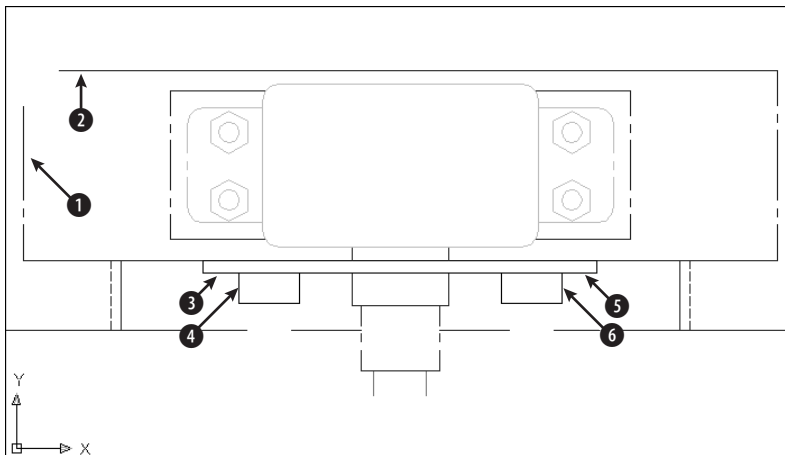

Figure 10-33: A mechanical drawing showing a small section of a porcupine mixer
2. Save the file as `ab10-11.dwg` in your *AutoCAD Bible* folder. This is the same drawing used in the previous exercise. It is shown in Figure 10-33.
4. At the **Select first object or [Polyline/Radius/Trim/mUltiple]:** prompt, pick the line at **1** in Figure 10-33. At the **Select second object:** prompt, pick the line at **2**. AutoCAD fillets the two lines.
6. At the `Select first object` or `[Polyline/Radius/Trim/multiple]:` prompt, right-click and choose `multiple`. Pick the line at ③ in Figure 10-33. At the `Select second object:` prompt, pick the line at ④. AutoCAD fillets the two lines. The prompts continue. This time pick at ⑤ and ⑥.